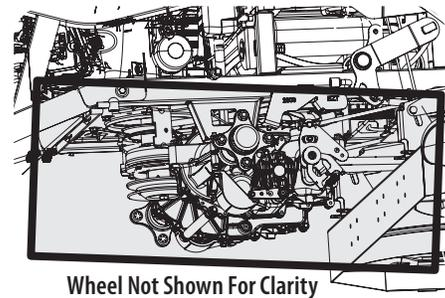

Figure 38
- Clean around and near the transmission, axle and the fan area. See Figure 38.